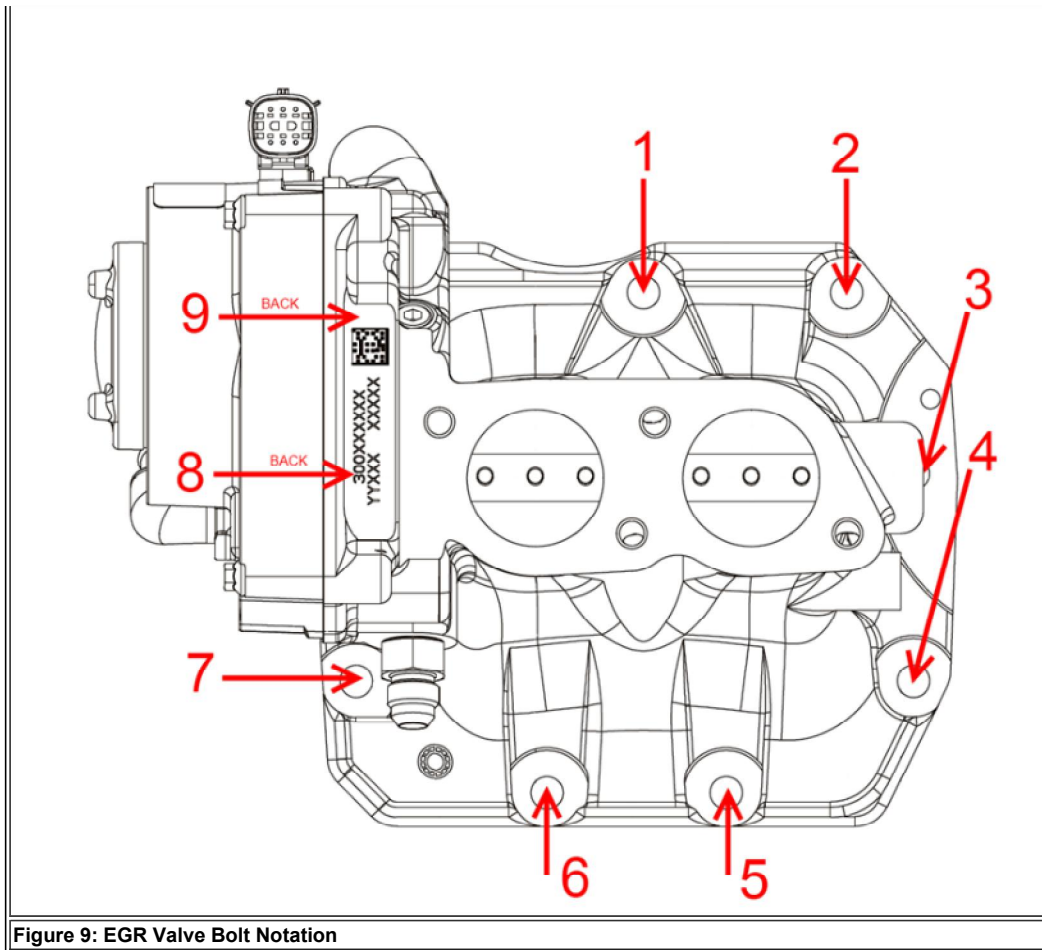

Figure 9: EGR Valve Bolt Notation
13. Install the EGR valve and torque as follows, referencing Figure 9 for bolt position notation.